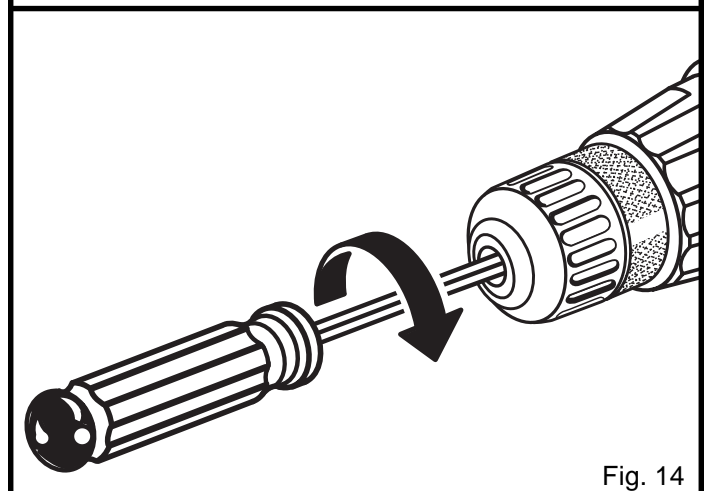

Fig. 14
- Open chuck jaws and remove hex key wrench. Remove the chuck screw by turning it in a clockwise direction. See Figure 14. **Note:** The screw has left hand threads.